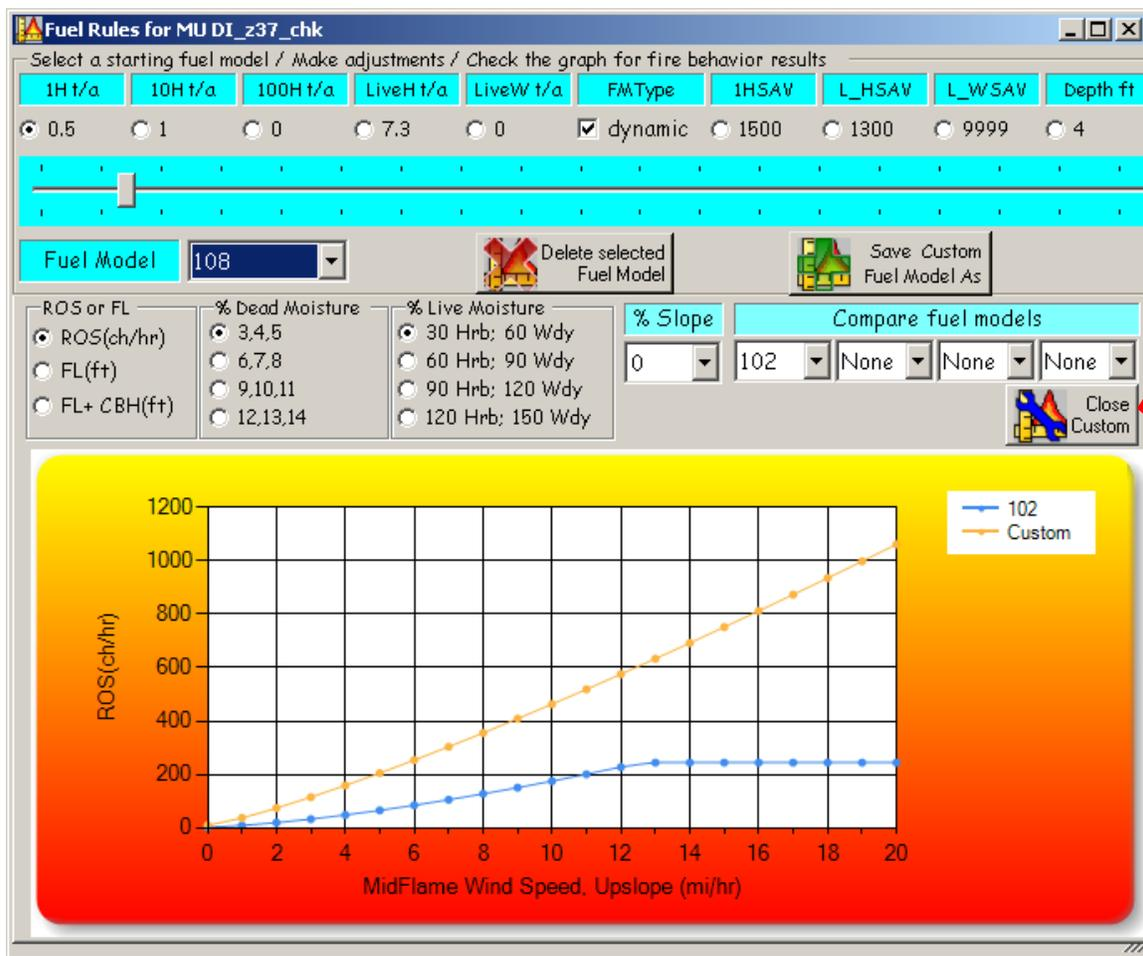

Figure 7-33. Create Custom Fuel Models page with Close Custom Fuel Model function.
- Make adjustments by selecting a parameter and then moving the slide adjustment (fig. 7-33).
- Close the custom fuel model interface when finished by clicking the same button, now called “Close Custom” (fig. 7-33).